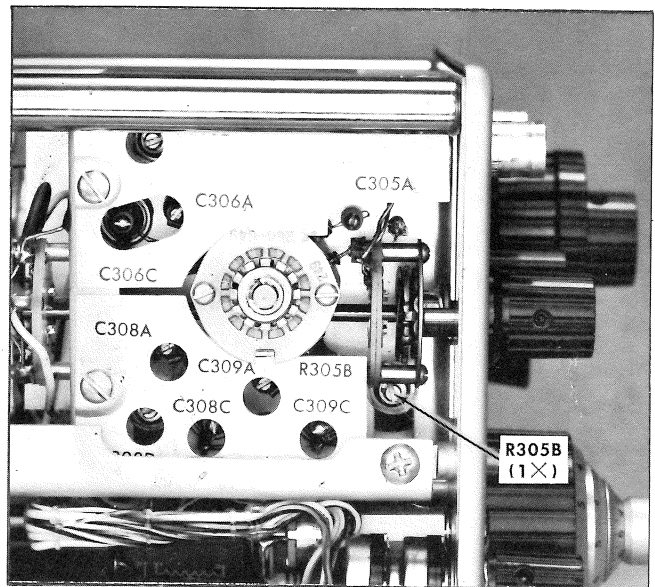

Fig. 5-15. Location of adjustment R305B.
- Check for a null reading on the voltmeter. If the reading is not obtained, adjust R305B (see Fig. 5-15) for a null reading.